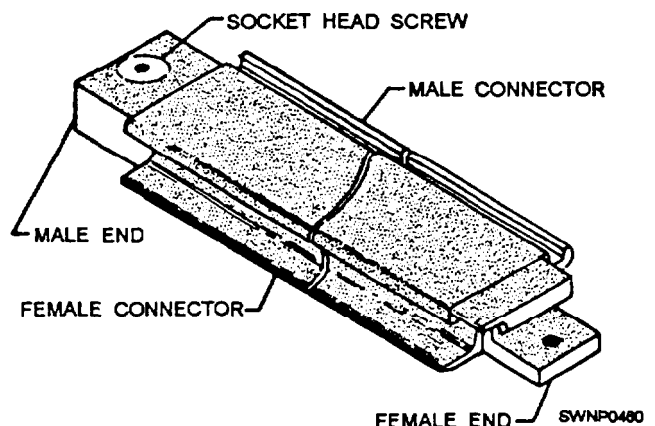

Figure 11-8.—Typical keylock.
**TYPICAL KEYLOCK.**— A typical keylock (fig. 11-8) is inserted every 100 feet in the pattern to permit the easy removal of sections of the matting for a multiple-mat replacement. For this reason, only a maximum of 50 feet of any one section needs to be removed to replace mats that could not economically be replaced as individual units by replacement mats. Typical keylocks are furnished in 3-foot, 9-foot, and 12-foot lengths to allow the staggering of joints of matting patterns. The typical keylock is coated with a nonskid material.